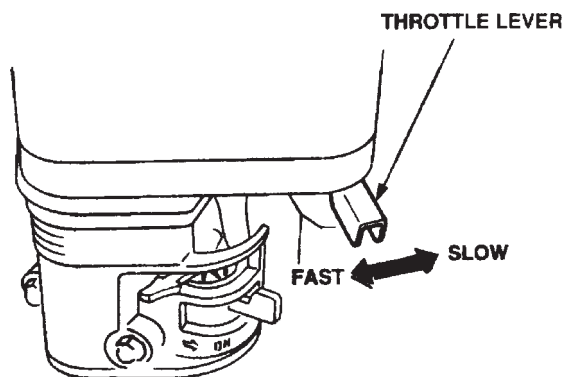

Figure 15. Throttle Lever
5. Rotate the **throttle lever** (Figure 15) halfway between **fast** and **slow** for starting. All sawing is done at **full throttle**. The engine governor speed is factory set to ensure optimum blade operating speeds.
6. Grasp the starter grip (Figure 15) and slowly pull it out. The resistance becomes the hardest at a certain position, corresponding to the compression point. Pull the starter grip briskly and smoothly for starting.
1. Start the engine. Rotate the throttle lever (Figure 15) toward full throttle.